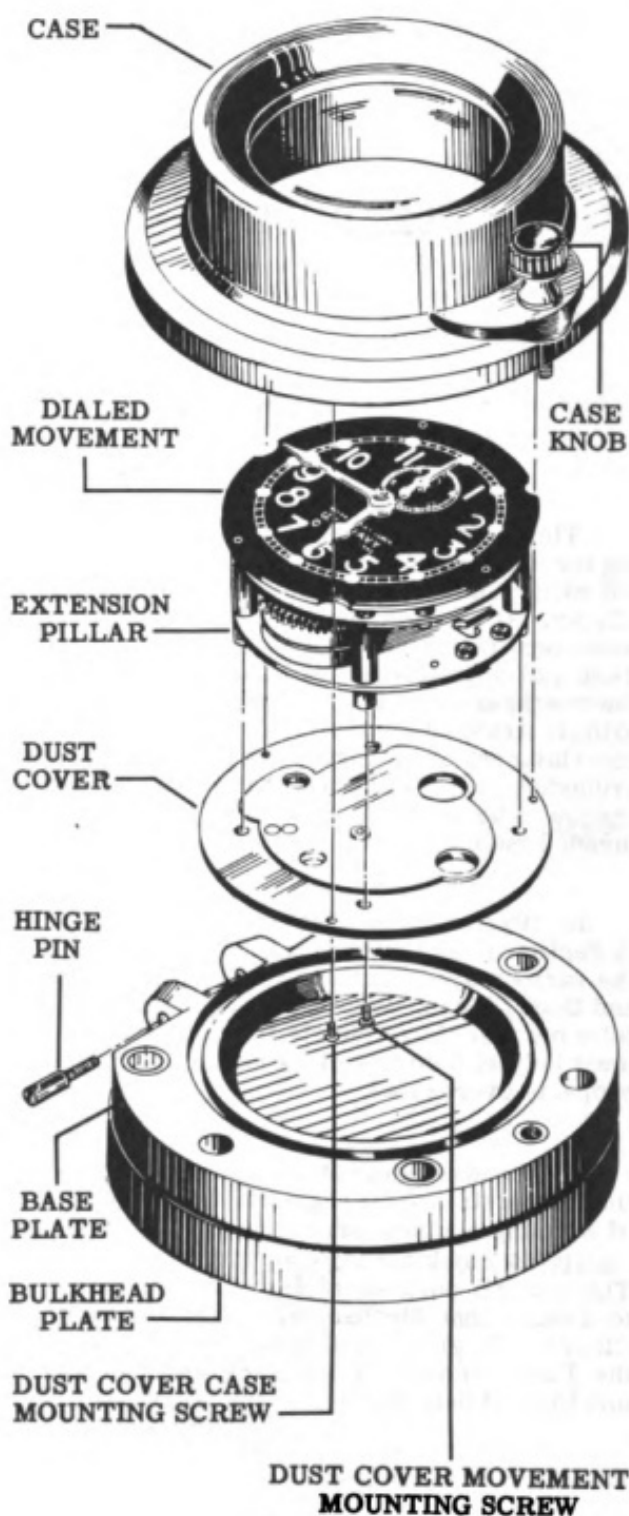

Figure 85
4. Refer to Fig. 85 for the relative positions of all parts involved in Operations 4 through 7. Turn the dialed movement over in the work block and position it so that no weight is placed on the hands. Fasten on the dust cover with the four dust cover movement mounting screws.